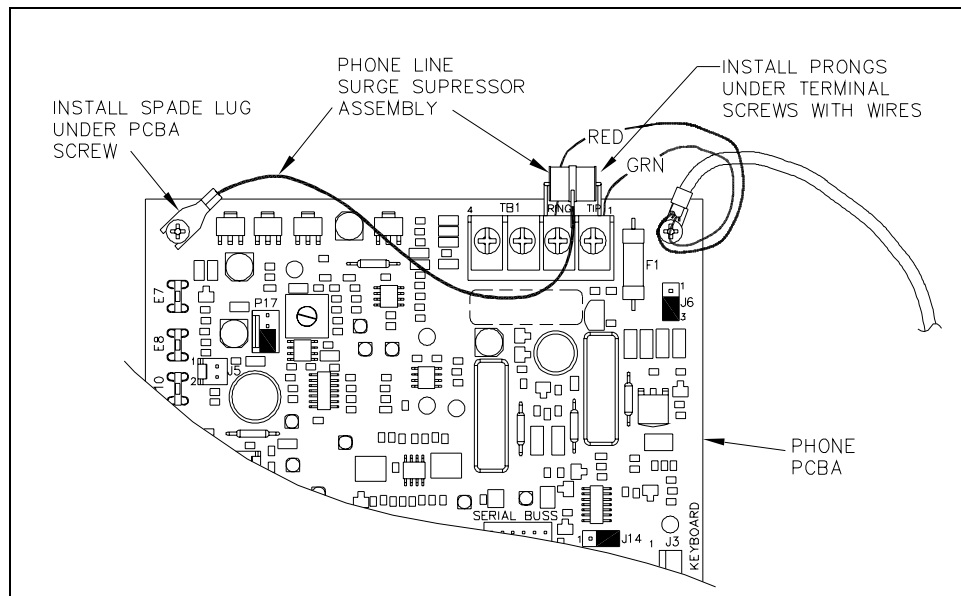
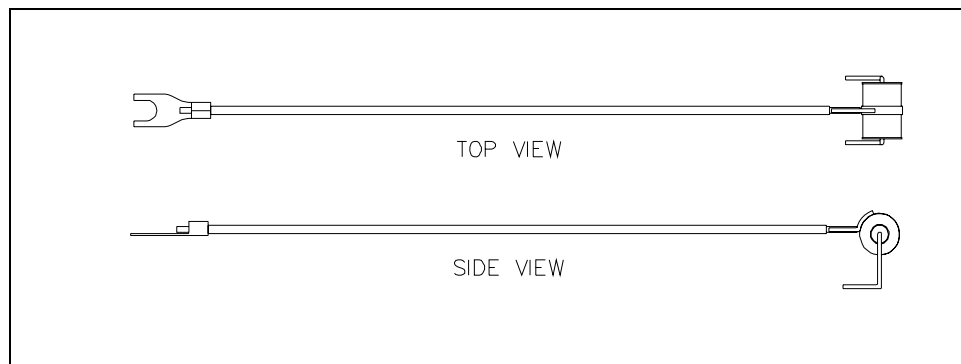

Figure 1. Phone line surge suppressor in place on phone PCBA
Figure 2. 61504-114 Surge Suppressor Assembly
Refer to Figure 1 and Figure 2 when installing the surge suppressor.
3. Insert the surge suppressor prongs beneath these screw terminals alongside the red and green wires. Tighten both terminal screws. See Figure 1.